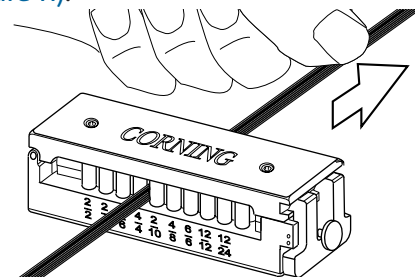

Figure 11
c. Pull the ribbon through the tool until you reach the marked separation length or the first mark on the ribbon, whichever is closest to the end of the ribbon (Figure 11).